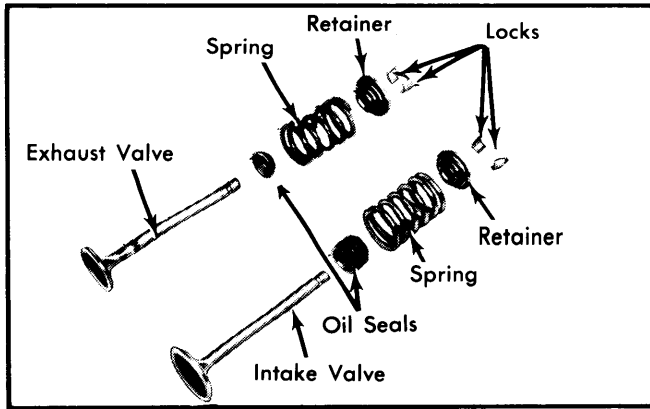

Fig. 2 Exploded View of Valve Assemblies
**Removal & Installation** — Remove valve springs and valve stem seals. Coat valve stems with engine oil and press new seals over valve stem squarely onto valve guide. Do not force seal against top of guide as the sealing lip pressure of the seal will be greatly reduced. Reinstall valve springs. See Fig. 2.